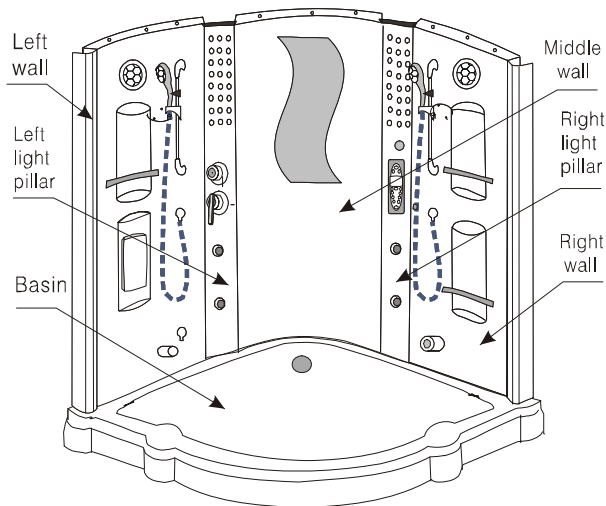

Fig. 3
3) Move the basin to the scheduled position, level it with the level gauge. The level gauge should be two each other vertical positions at least, make the air of the level gauge in the center through regulating the adjustable bolt under the basin. After leveling, screw the adjustable nut tightly. Move the basin that has been leveled to the place about 400mm apart to the wall. Put the wall assembly on the bathtub; join them with M6x25 bolts through the corresponding holes. Fig. 3